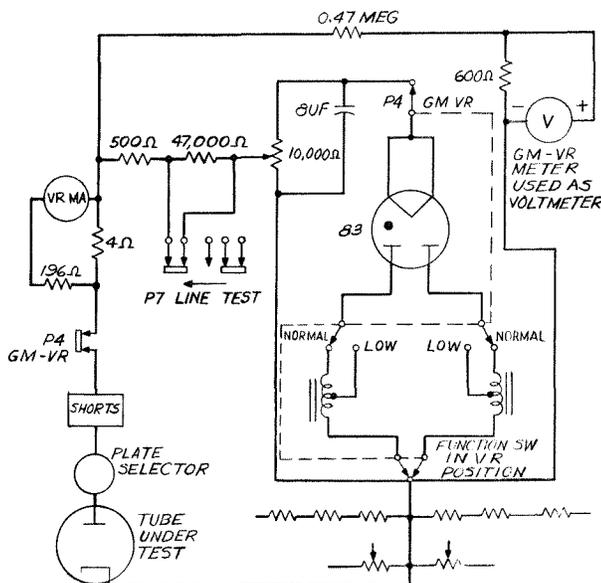

Fig. 7 - VR Tube Test Circuit
2.28 VR Tube Test Circuit: Provision for checking cold cathode voltage regulator or voltage reference tubes is accomplished as shown in Fig. 7. The feature using contacts